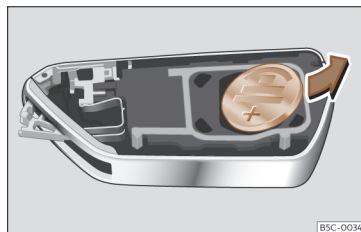

Fig. 59 Vehicle key: removing the battery.
- Extract the battery from the compartment using a suitable thin object >>> Fig. 59.
- Insert the new battery and press it into the battery compartment >>> ①.